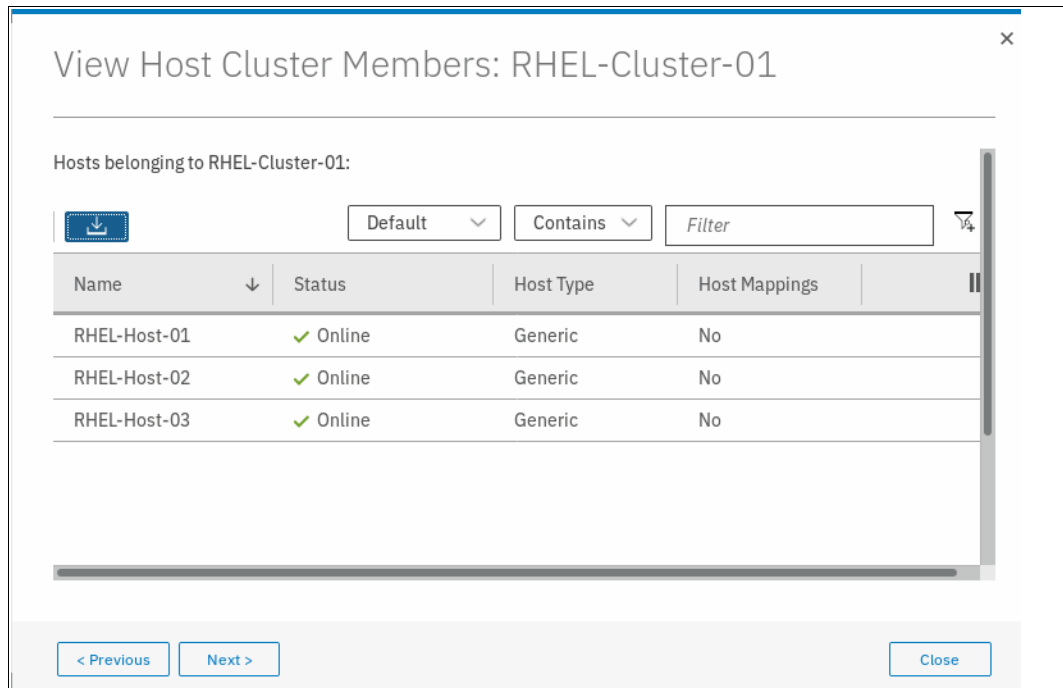

Figure 5-82 Listing host cluster members
2. Click **View Hosts** to list the host cluster members, as shown in Figure 5-82.